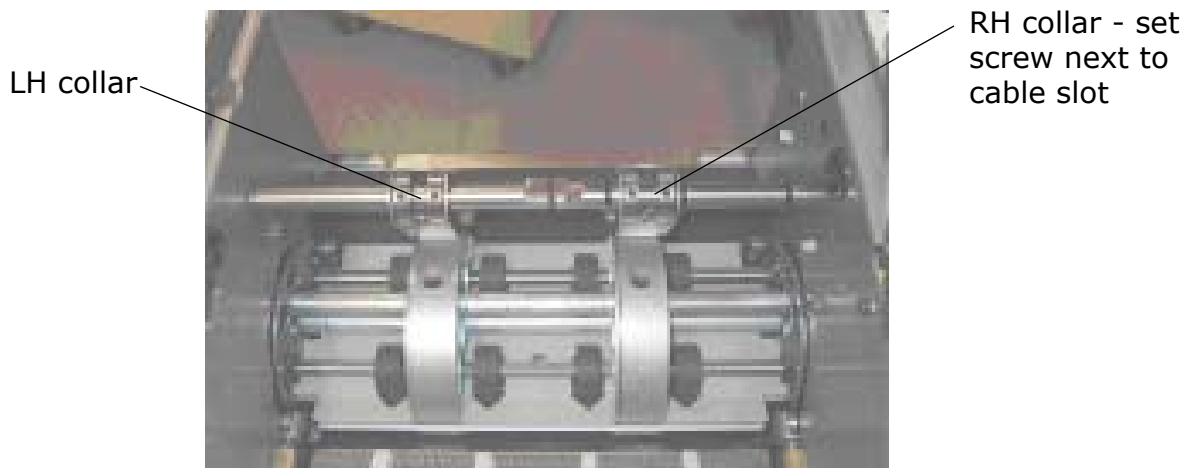

Fig. 21
1.3.6 Pressure arm adjustment (Fig. 21 below) – to reduce skew in the 2nd fold (cassette). Excessive block pressure restricts cassette rotation causing erratic stop position. This in turn produces inconsistent fold lengths